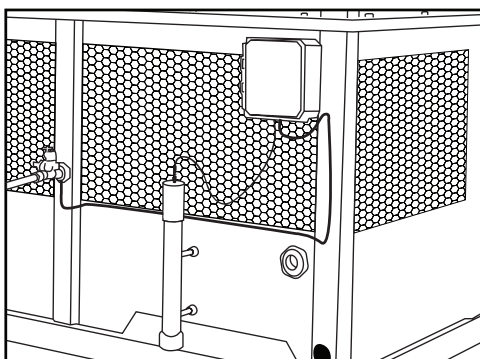
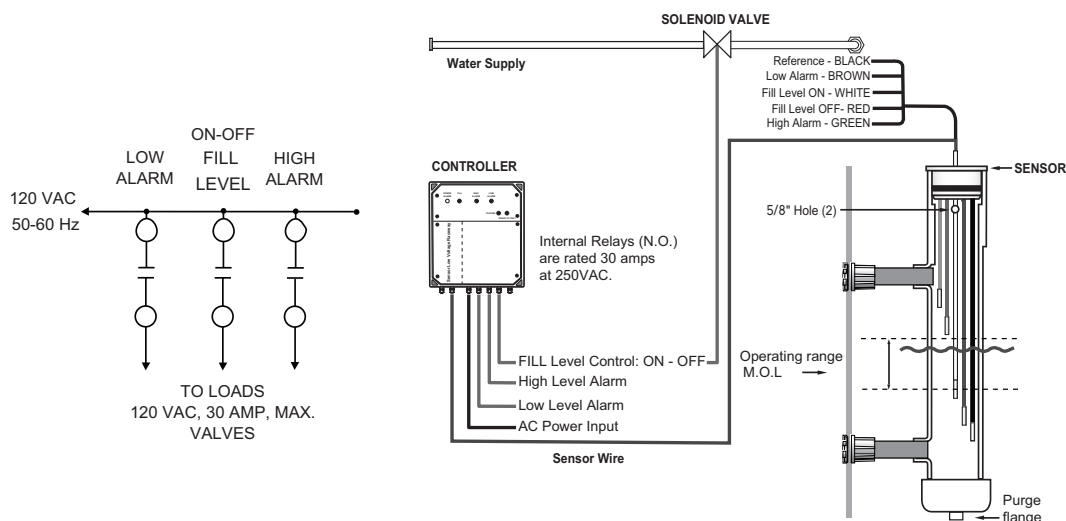

Figure A-112: Electric water level control system
Figure A-113: Electrical Connections & Water Level Control Parts
Electric water level control system is an optional accessory offered by REYMSA includes water level controller, stilling chamber, and solenoid valve for water make up (see Figure A-112 & Figure A-113).
2. The sensor assembly (Figure A-113) must be made so that the end of the PVC pipe is below the minimum level of water to be maintained.